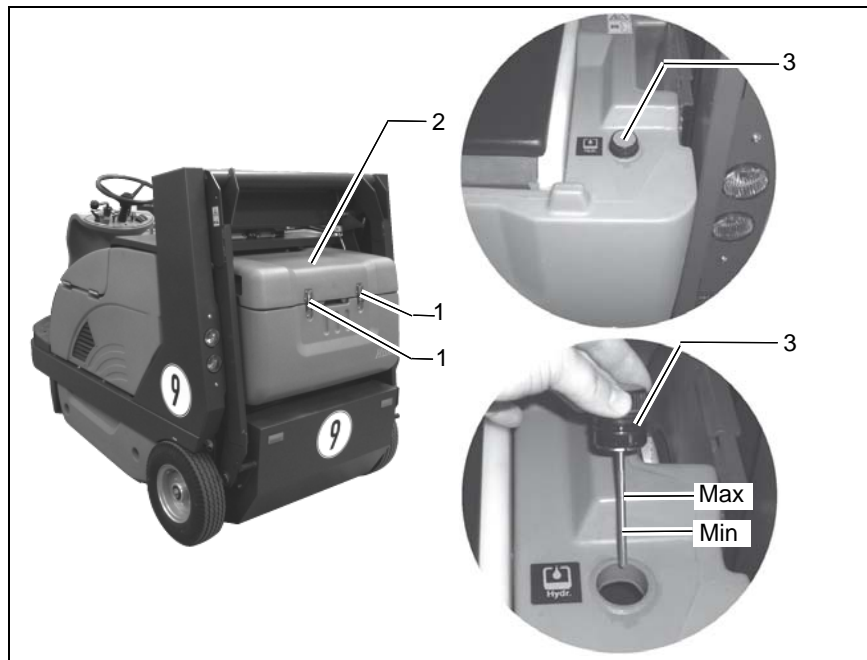

Fig.22
- Open quick-release locks (Fig. 22/1) and remove cover (Fig. 22/2)
- Clean the area of the dipstick (Fig. 22/3).
- Pull dipstick (Fig. 22/3).
- Pull dipstick (Fig. 22/3) and check the hydraulic fluid level, refill if required.
- Unscrew cap with dipstick (Fig. 22/2) and check hydraulic fluid level, see paragraph 5.11.1.
- The hydraulic fluid level must not fall below the minimum. It should read between the minimum and the maximum (Fig. 22/).